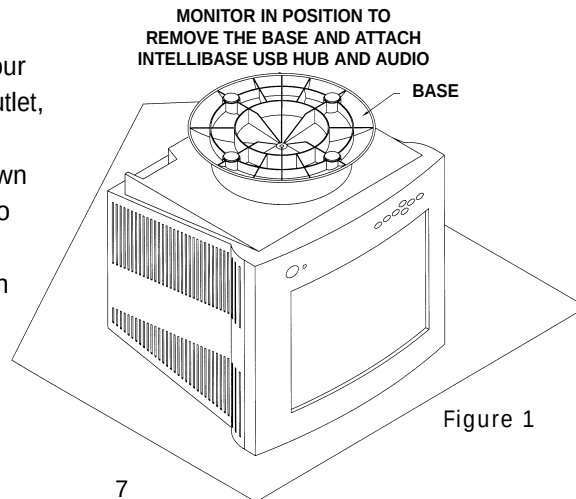

Figure 1
Step 1 With the monitor unplugged from your system and wall outlet, carefully turn the monitor upside down onto a firm table so that the base is facing up as shown in Figure 1.